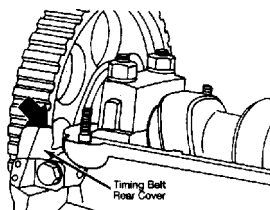

Fig. 3: Aligning Camshaft Sprocket
4) Set engine to TDC of compression stroke on No. 1 cylinder. Turn camshaft until timing mark on sprocket is aligned with upper edge of camshaft cover gasket (or rear timing belt cover). See Fig. 3. Install water pump with NEW sealing "O" ring, leaving bolts loose enough to move pump body.
2) Using crankshaft bolt, turn crankshaft clockwise to TDC of compression stroke on No. 1 cylinder. Align timing mark on back of camshaft sprocket with upper edge of gasket. See Fig. 3.